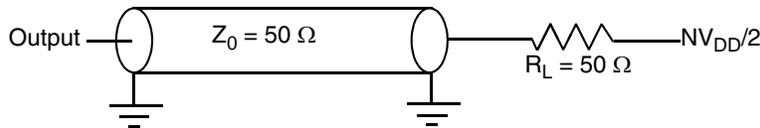

Figure 40. AC Test Load for the JTAG Interface
- All outputs are measured from the midpoint voltage of the falling/rising edge of t_{TCLK} to the midpoint of the signal in question. The output timings are measured at the pins. All output timings assume a purely resistive 50-Ω load (see Figure 40). Time-of-flight delays must be added for trace lengths, vias, and connectors in the system.
- The symbols used for timing specifications follow the pattern of $t_{(first\ two\ letters\ of\ functional\ block)(signal)(state)\ (reference)(state)}$ for inputs and $t_{(first\ two\ letters\ of\ functional\ block)(reference)(state)(signal)(state)}$ for outputs. For example, t_{JTDVKH} symbolizes JTAG device timing (JT) with respect to the time data input signals (D) reaching the valid state (V) relative to the t_{JTG} clock reference (K) going to the high (H) state or setup time. Also, t_{JTDXKH} symbolizes JTAG timing (JT) with respect to the time data input signals (D) went invalid (X) relative to the t_{JTG} clock reference (K) going to the high (H) state. Note that, in general, the clock reference symbol representation is based on three letters representing the clock of a particular functional. For rise and fall times, the latter convention is used with the appropriate letter: R (rise) or F (fall).